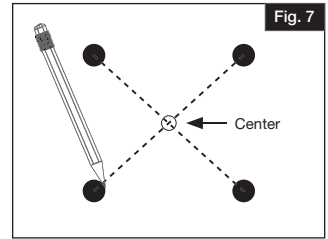

Fig. 7
- Remove the rail section and posts. Then, from the those marks just made, draw an "X" and where the lines cross is the center (Fig. 7).